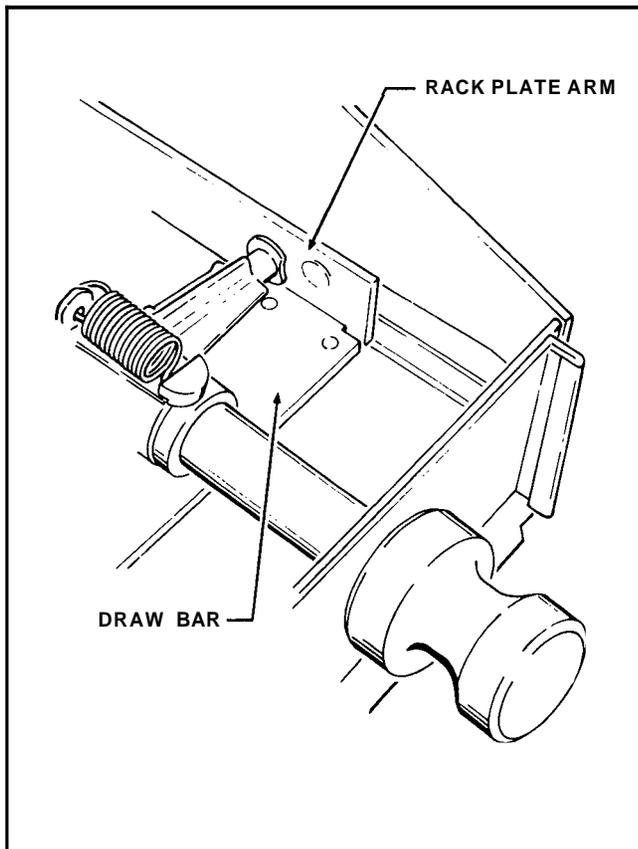

FIGURE 5-5
2. **Check to be sure the right end of the Draw Bar is properly fit under the notched part of the Rack Plate Arm. Compare with the left end fitting of both parts. See Figure 5-5.**